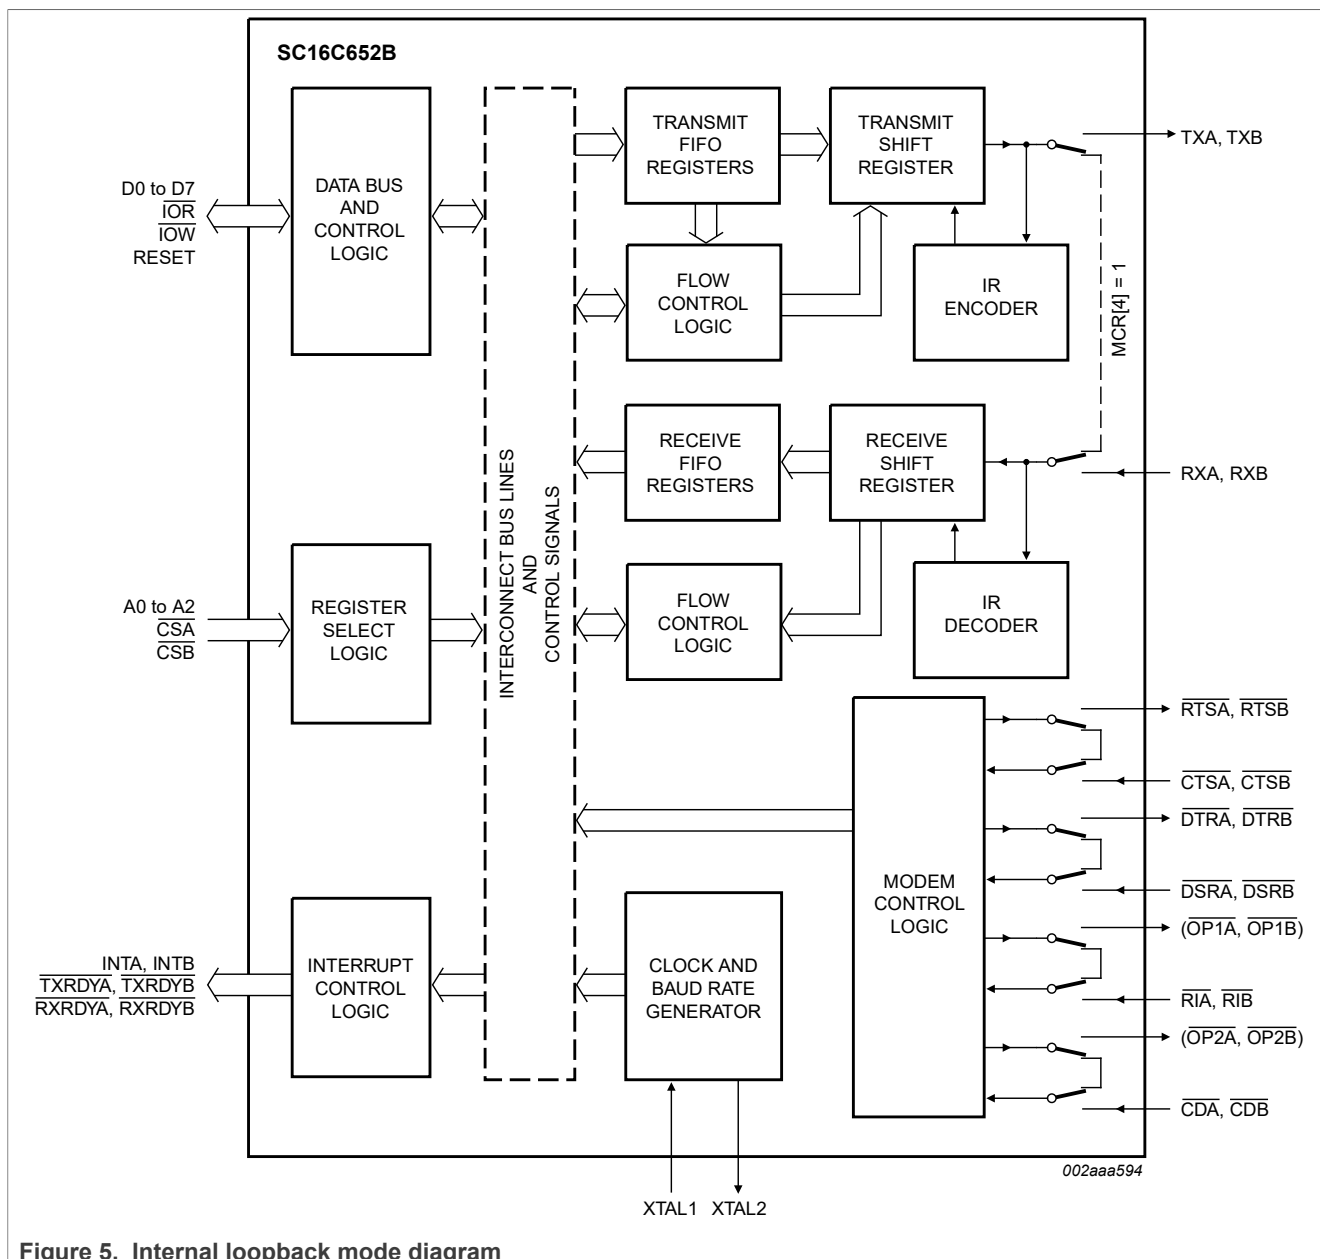

Figure 5. Internal loopback mode diagram
The internal loopback capability allows on-board diagnostics. In the loopback mode, the normal modem interface pins are disconnected and reconfigured for loopback internally (see Figure 5). MCR[3:0] register bits are used for controlling loopback diagnostic testing. In the Loopback mode, the transmitter output (TX) and the receiver input (RX) are disconnected from their associated interface pins, and instead are connected together internally. The $\overline{\text{CTS}}$, $\overline{\text{DSR}}$, $\overline{\text{CD}}$, and $\overline{\text{RI}}$ are disconnected from their normal modem control inputs pins, and instead are connected internally to $\overline{\text{RTS}}$, $\overline{\text{DTR}}$, MCR[3] ($\overline{\text{OP2}}$) and MCR[2] ($\overline{\text{OP1}}$). Loopback test data is entered into the transmit holding register via the user data bus interface, D[7:0]. The transmit UART serializes the data and passes the serial data to the receive UART via the internal loopback connection. The receive UART converts the serial data back into parallel data that is then made available at the user data interface D[7:0]. The user optionally compares the received data to the initial transmitted data for verifying error-free operation of the UART TX/RX circuits.